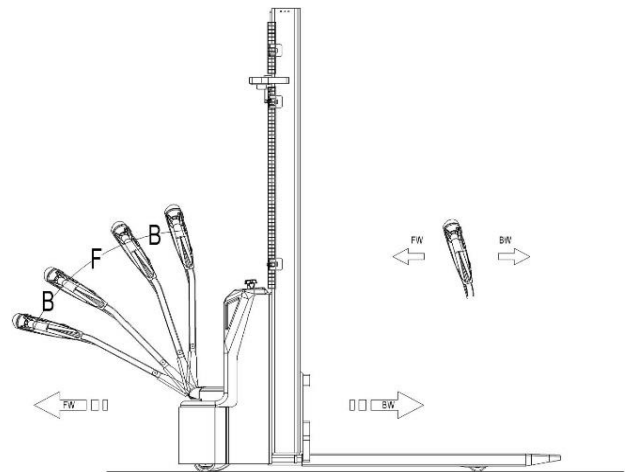

Fig.11: Operating direction
Turn the inserted key to "ON" (Fig. 8), pull up the emergency button carefully, start the truck, and move the tiller within the operating area 'F' (Fig. 11).
Turn the accelerator knob to the desired direction forward 'Fw.' Or backwards 'Bw.' (Fig. 11). Control the driving speed by carefully moving accelerator knob (13) until the desired speed is reached. If you move the accelerator knob back to the neutral position, the controller will decelerate the truck until it stops.
The braking function can be activated in several ways (Fig.7, Fig. 11):